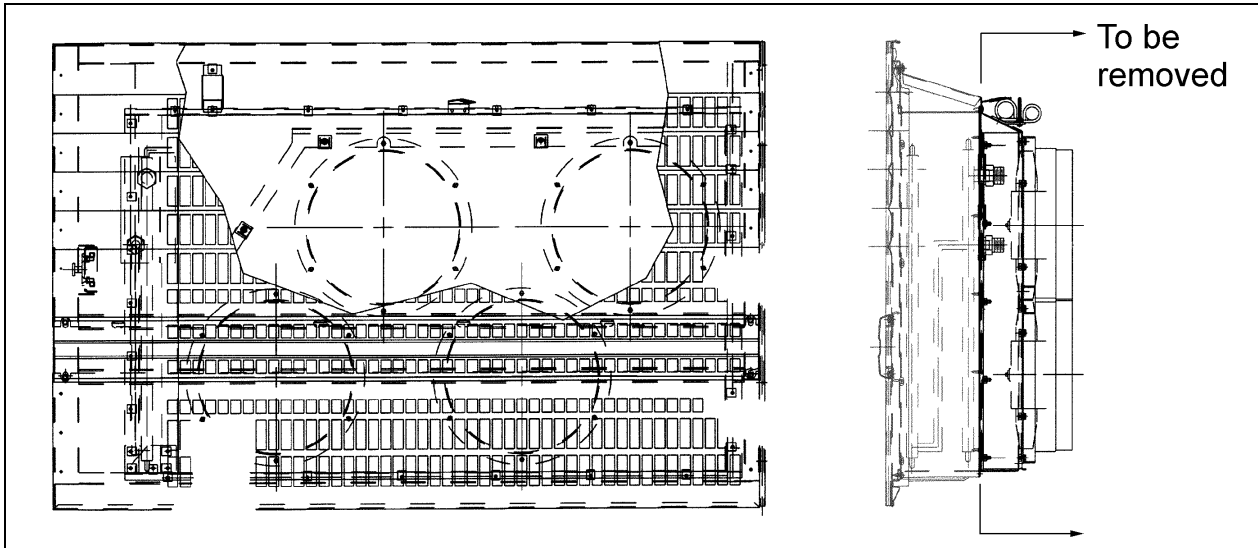

Figure 2: Condenser compartment door. Section to remove.
7. Remove the section of the condenser compartment containing the four fan motors (figure 2).